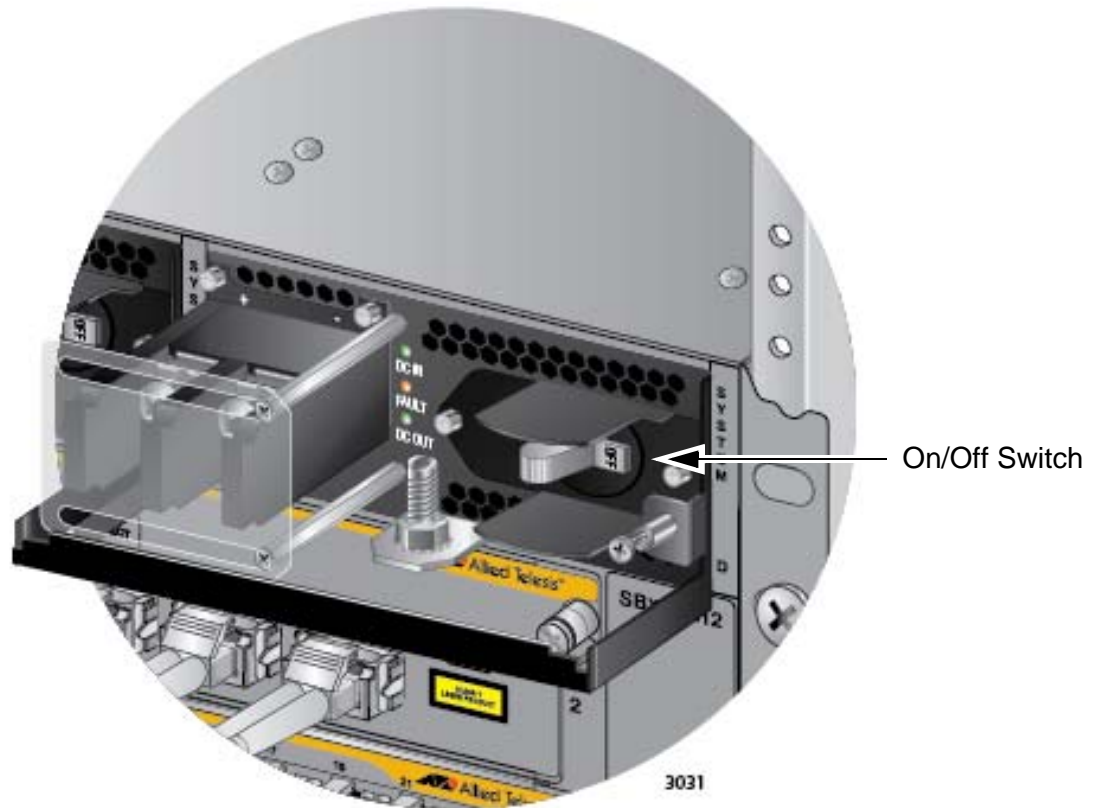

Figure 107. On/Off Switch on the AT-SBxPWRSYS1 DC Power Supply
3. Verify that the On/Off switch on the AT-SBxPWRSYS1 DC Power Supply is in the Off position. Refer to Figure 107 on page 169.
13. Turn the On/Off switch on the power supply to the On position. See Figure 107 on page 169.
2. Verify that the On/Off switch on the AT-SBxPWRSYS1 DC Power Supply is in the Off position. Refer to Figure 107 on page 169.
12. Turn the On/Off switch on the power supply to the On position. See Figure 107 on page 169.
11. Turn the On/Off switch on the power supply to the On position. See Figure 107 on page 169.